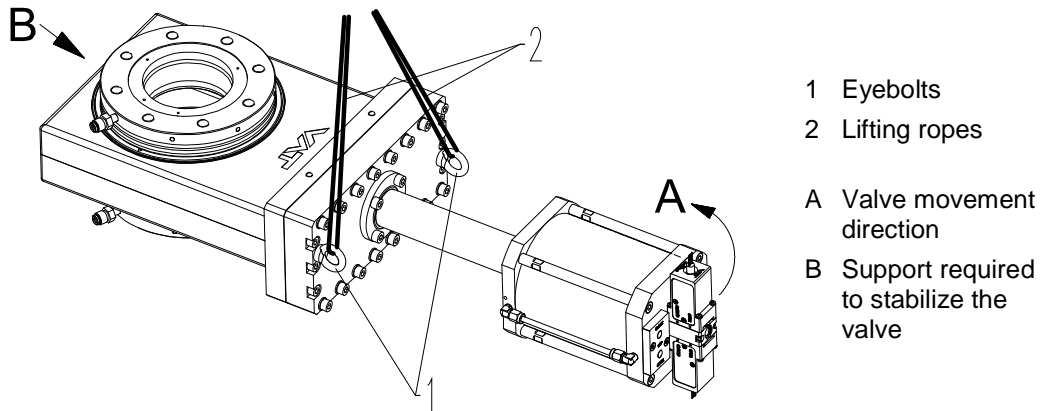

Figure 4-1
Open the outer plastic bag protecting the valve only at the points where you need access to the eyebolts (1) for fastening the crane hooks; see «Figure 4-1» on page 10. Keep valve in the plastic bag until it is being installed into the system.
|                                                                                     | <p>Wrong liftingValve may crash and get damaged.Use only the eyebolts shown in the dimensional drawing and in «Figure 4-1» on page 10 to lift the valve. Using any other components (e. g. position indicators, solenoids) to lift the valve is strictly forbidden.</p> |
Use a crane for lifting valve DN100 and higher out of the transport box; see «Figure 4-1».